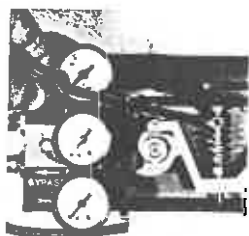

Figure 6
Turn the spring (38) clockwise to increase the effective length of the spring. Tighten the screw (39). (Figure 6.)